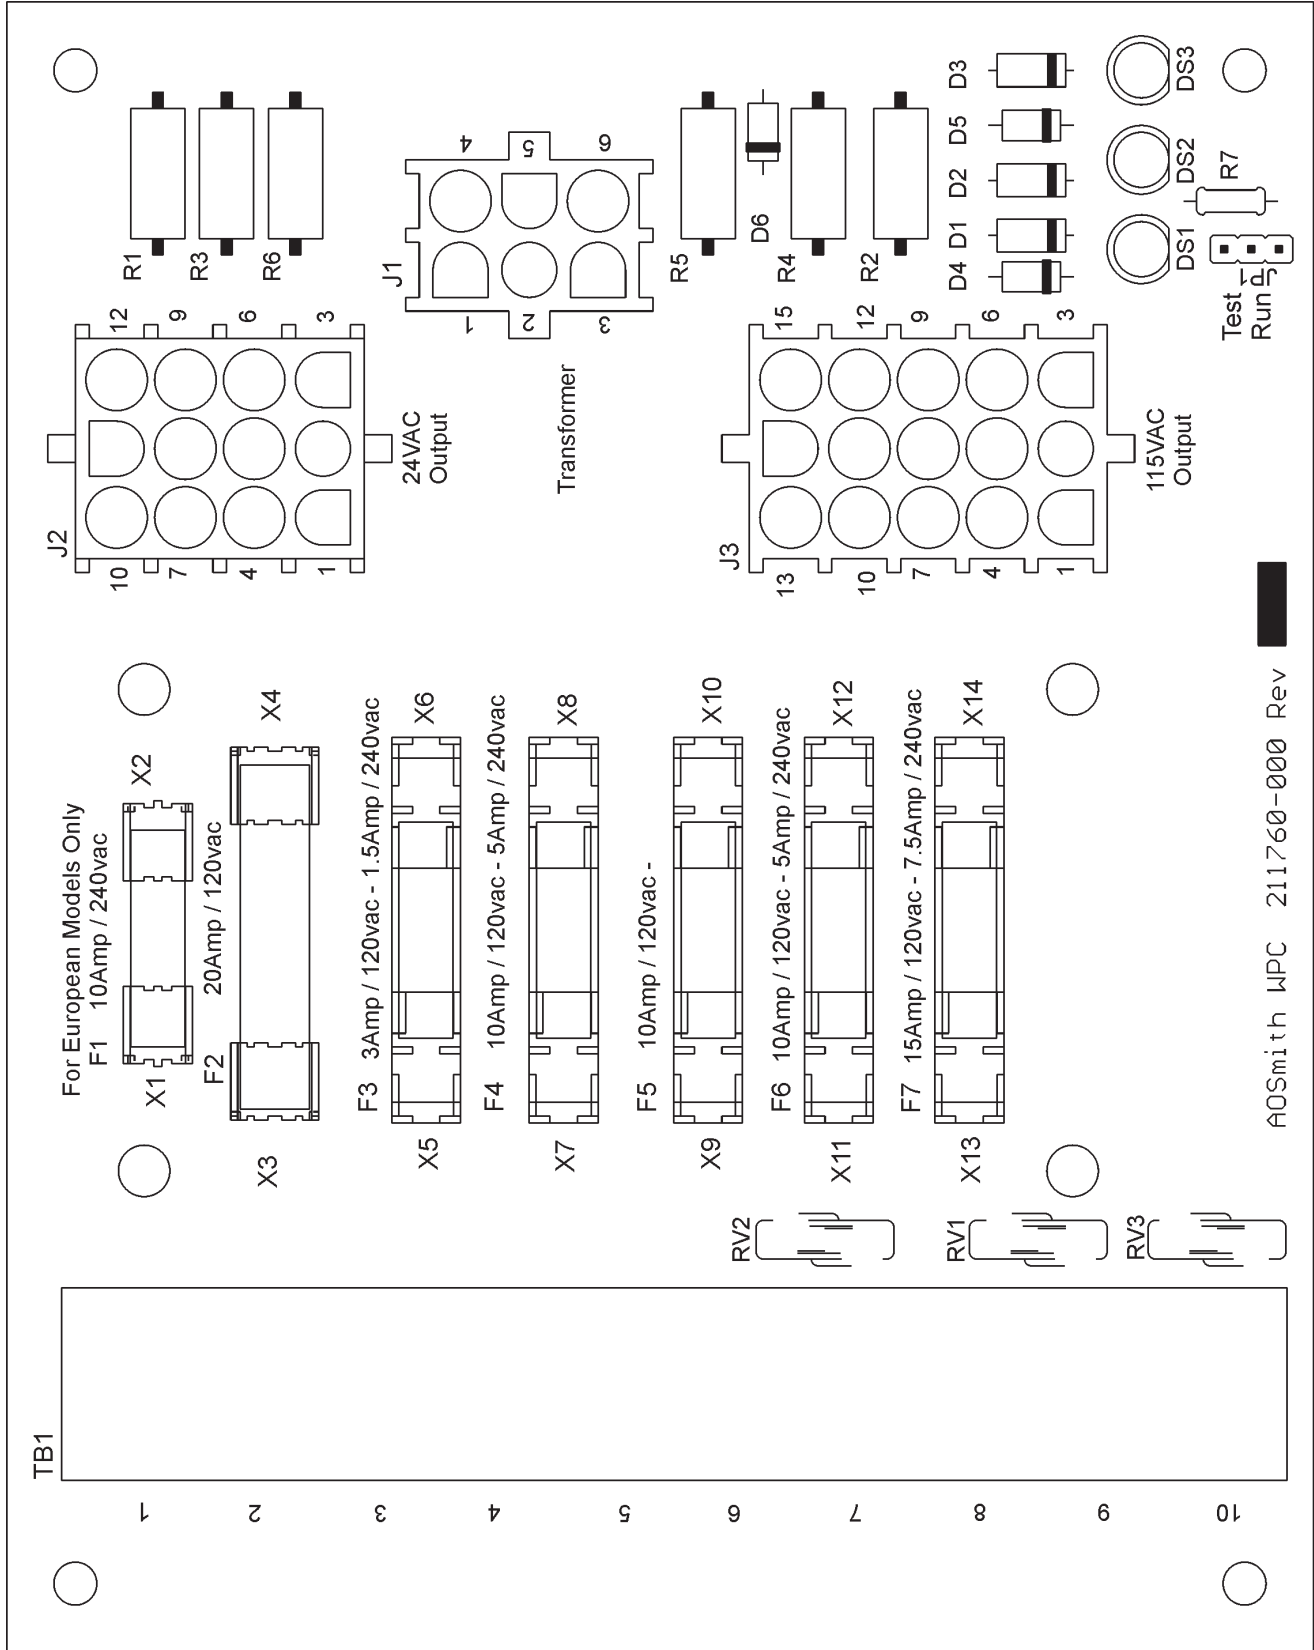

FIGURE 1C. PDB POWER DISTRIBUTION BOARD
- Power Distribution Board (PDB). See Figure 1C.